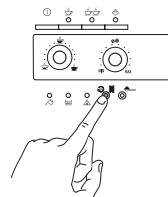

Figure 29
- Press and hold the ☼ ☼ button for at least 5 seconds (Figure 29). The button will illuminate to indicate the start of the decalcification process (the ☼ and ☼☼ lights remain off to indicate that it is not possible to make espresso / coffee).